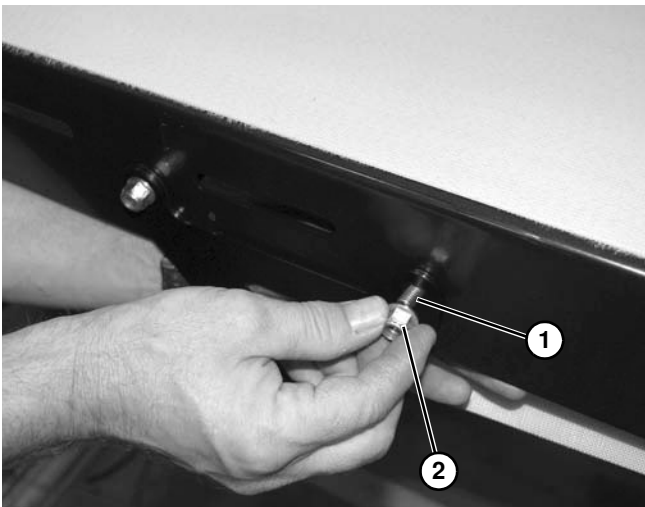

Figure 64
9. Install cross support onto conveyor frame with two carriage bolts (**Figure 64, item 1**) and nuts (**Figure 64, item 2**).